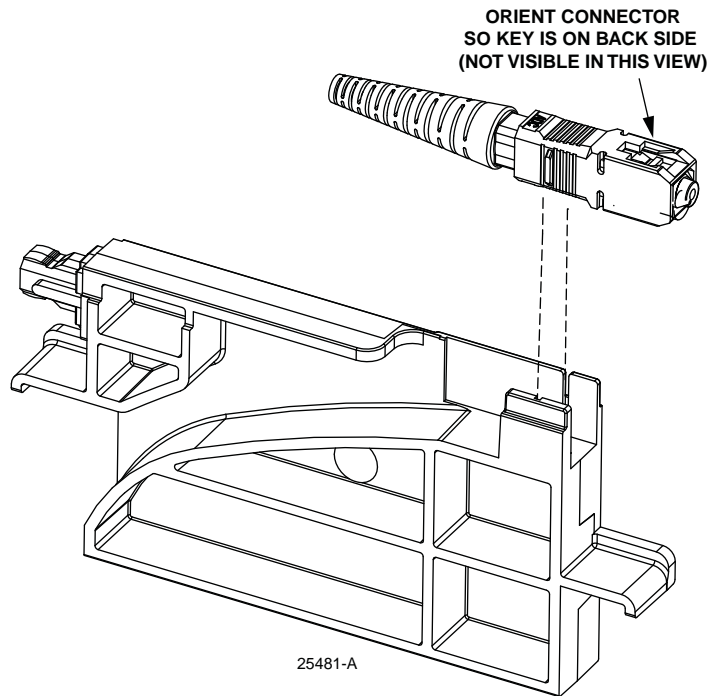

Figure 30. Installing Patch Cord Connector in Dust Cap Assembly
8. Install the patch cord connector in the dust cap assembly as shown in Figure 30.